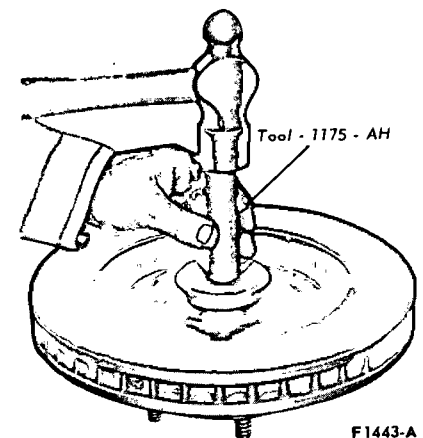

FIG. 6 Installing Grease Retainer—Disc
14. Place the inner bearing cone and roller assembly in the inner cup. Apply a light film of grease to the lips of the grease retainer and install the new grease retainer with the tool shown in Fig. 6. Be sure the retainer is properly seated.